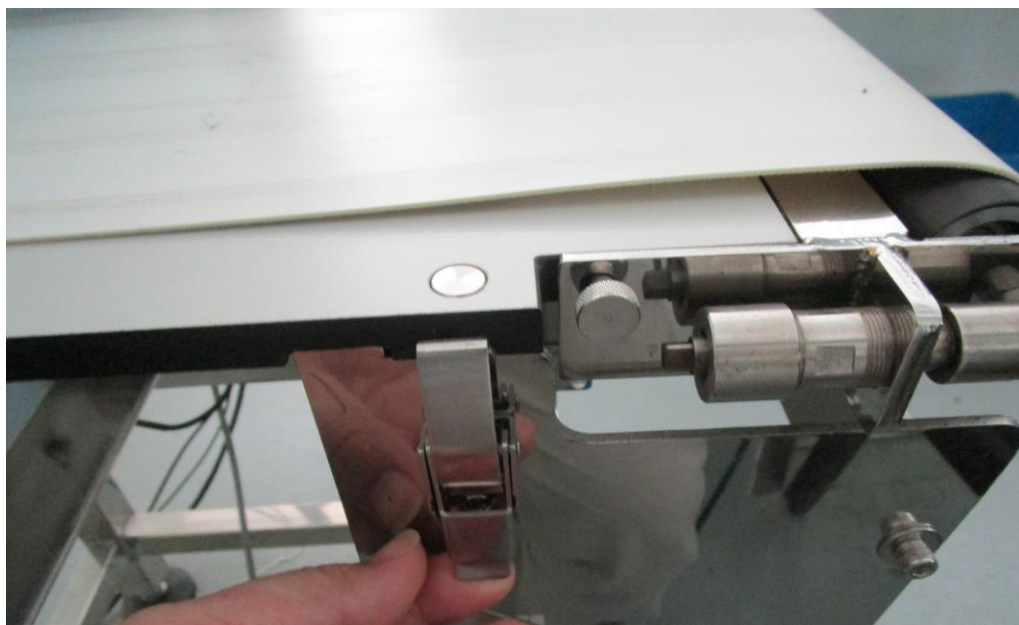

Figure 4-2 Opening the buckle
2) Open the buckles on both sides of the conveying device (Figure 4-2).